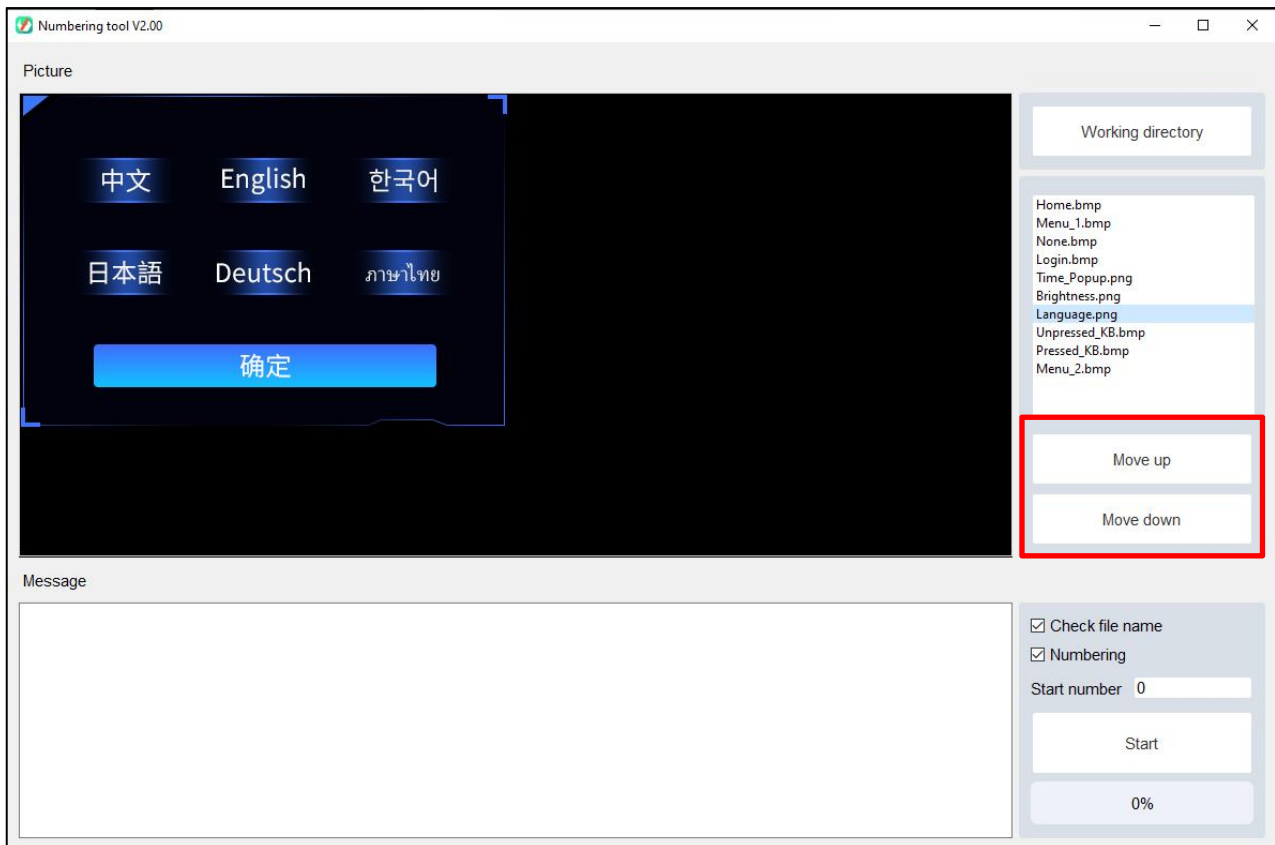

Figure 9-37: Adjust the picture order
- 2、As shown in Figure 9-37, the selected picture is displayed in the Picture preview area. All pictures of the same directory are listed on the right. Adjust the picture order by **[Move up]** and **[Move down]** buttons so that the picture order meet the design requirement.